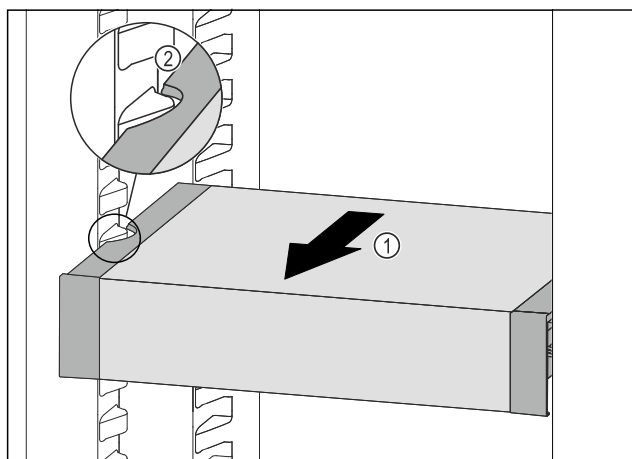

Fig. 134
- ▶ Pull VarioSafe forwards *Fig. 134 (1)* until the recesses in the side of the VarioSafe are at the level of the support rib in the fridge section. *Fig. 134 (2)*